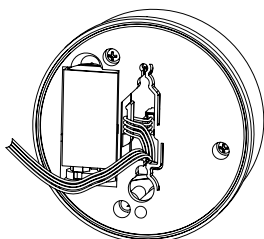

Fig. 3
3. Fold the connection cable inside the Keypad (Fig.3)